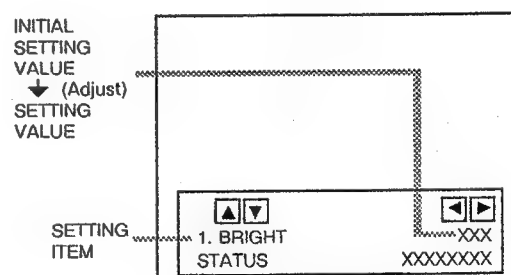
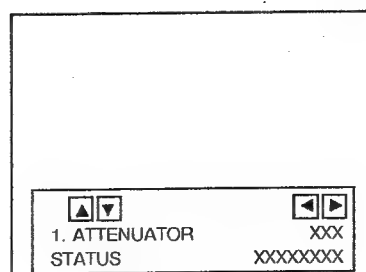
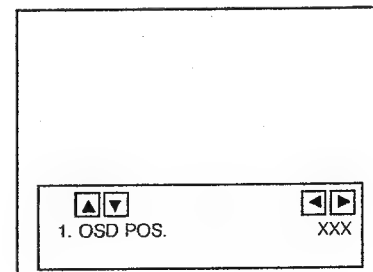

Fig. 3 PICTURE MODE
Fig. 4 SOUND MODE
Fig. 5 OTHERS MODE
- 3) If the UP / DOWN KEY is pressed, the PICTURE MODE screen shown in Fig.3 or the SOUND MODE screen shown in Fig.4 or the OTHERS MODE screen shown in Fig.5 is displayed and the PICTURE, SOUND or OTHERS setting can be performed.